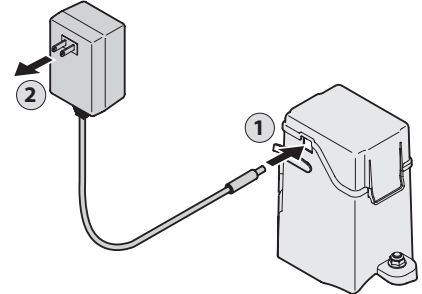

Figure 4-6
1. Unhinge the cover seal and plug the battery charger into the port on the side of the battery housing. See Figure 4-6.